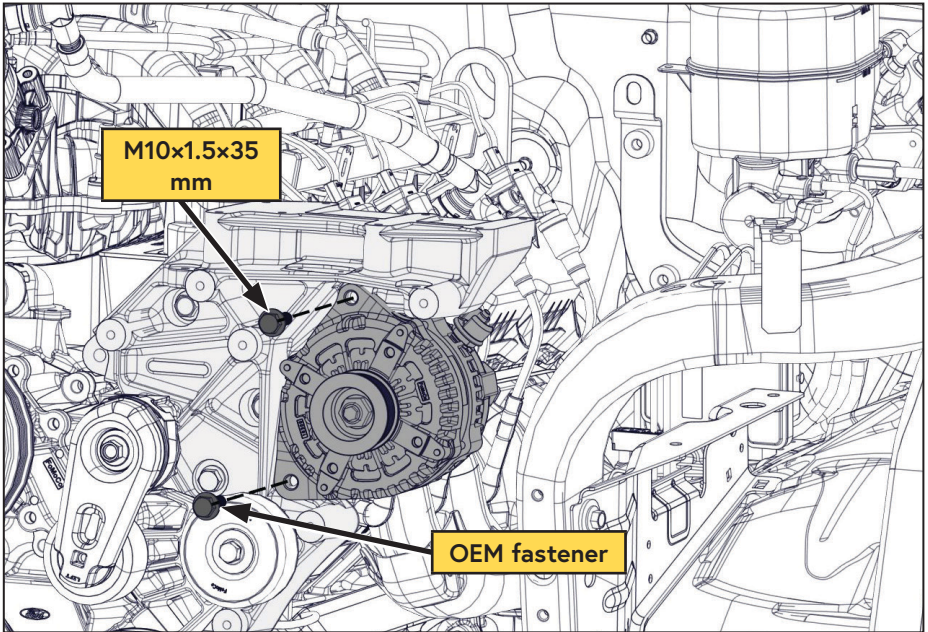

Figure 30 — Install alternator
- Install the alternator using (x1) OEM fastener and (x1) supplied fastener (Figure 30).